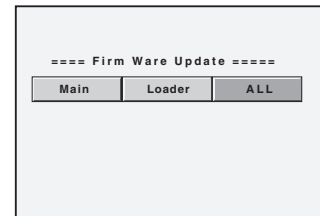

Fig. 3-1-4
- 3) Press the REC ● button on this DVD recorder three times: The Firmware Update screen will appear (Fig. 3-1-4).